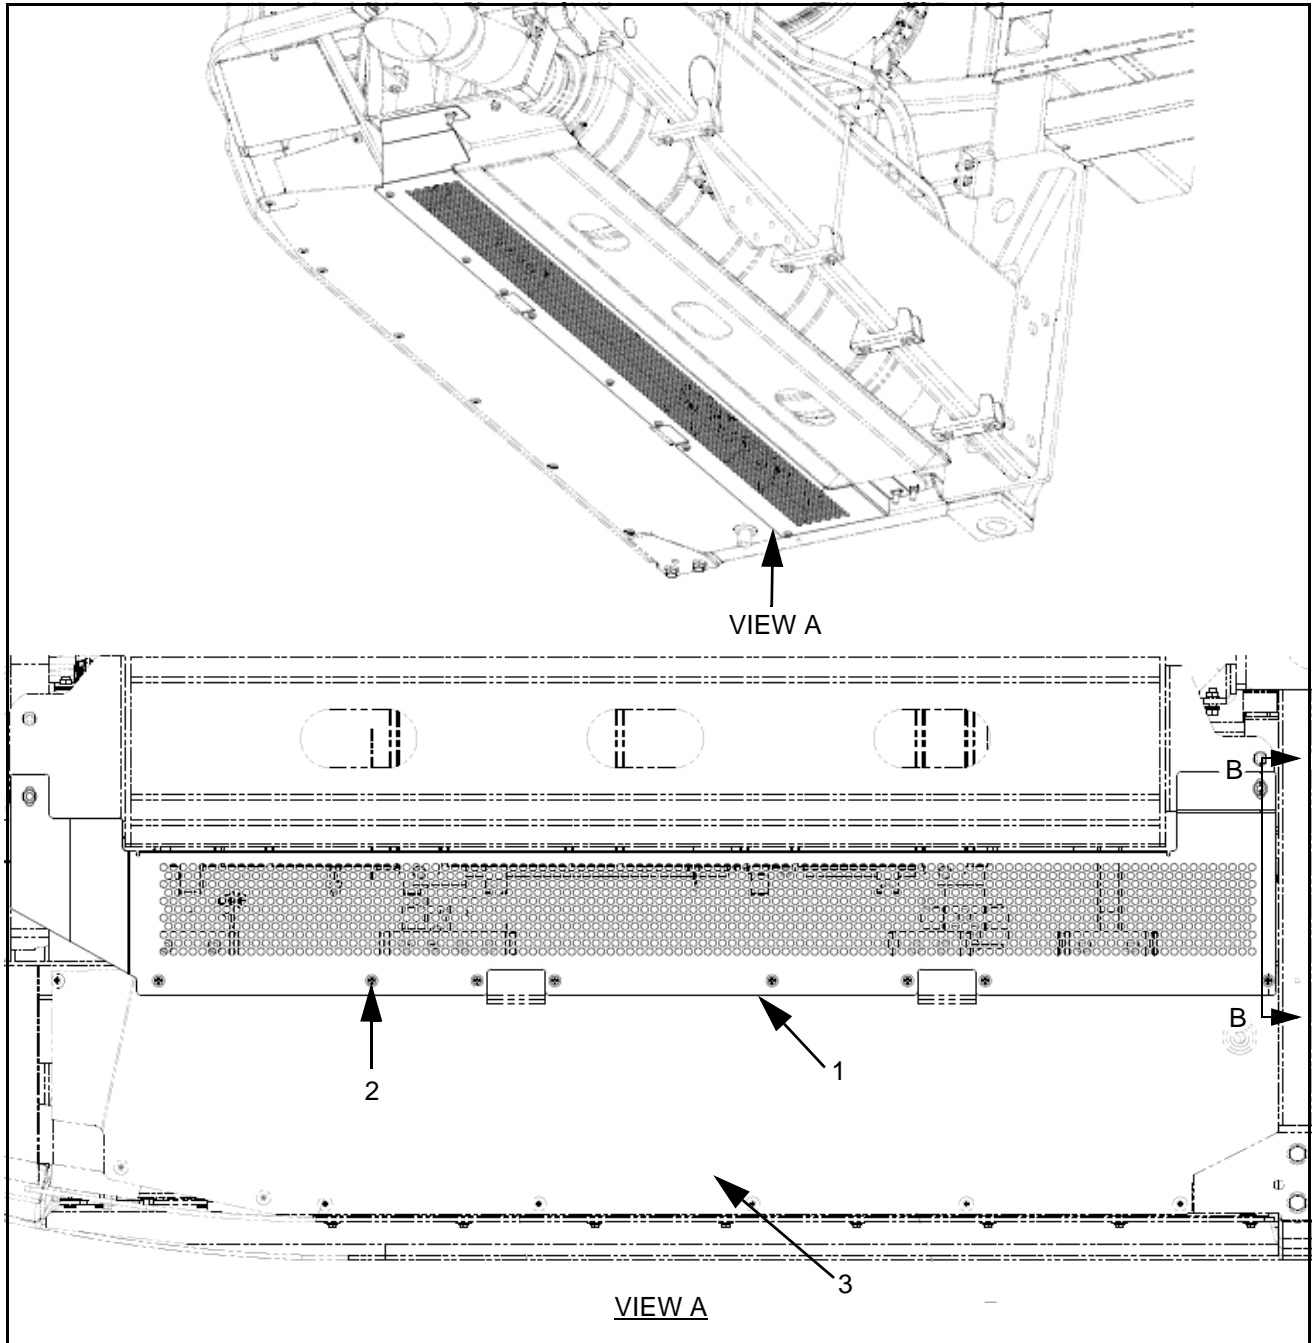

Figure 1.
3. Using the mounting hardware, orient and install the radiator guard as shown in Figures 1 and 2. Torque the locknut to 33-37 ft-lbs.
Item	Figure 1 Description